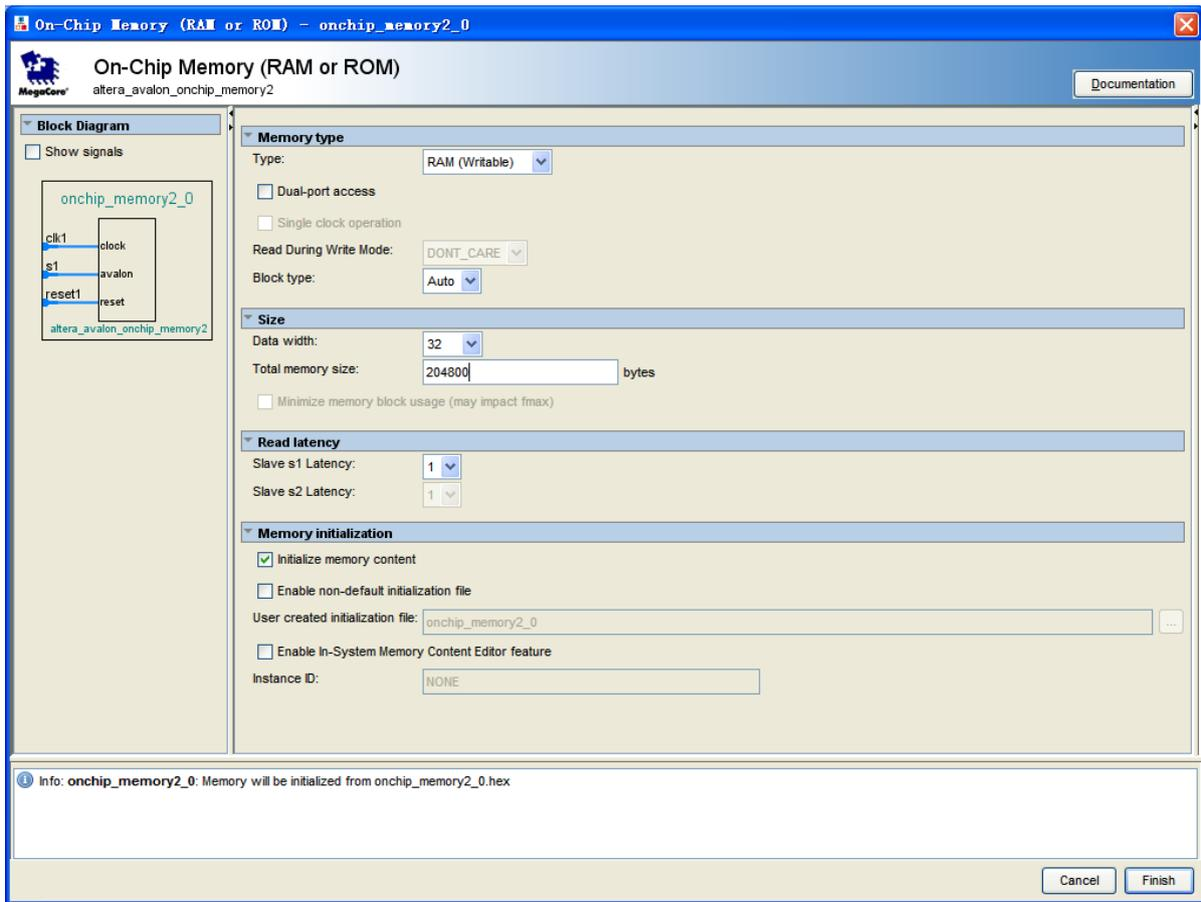
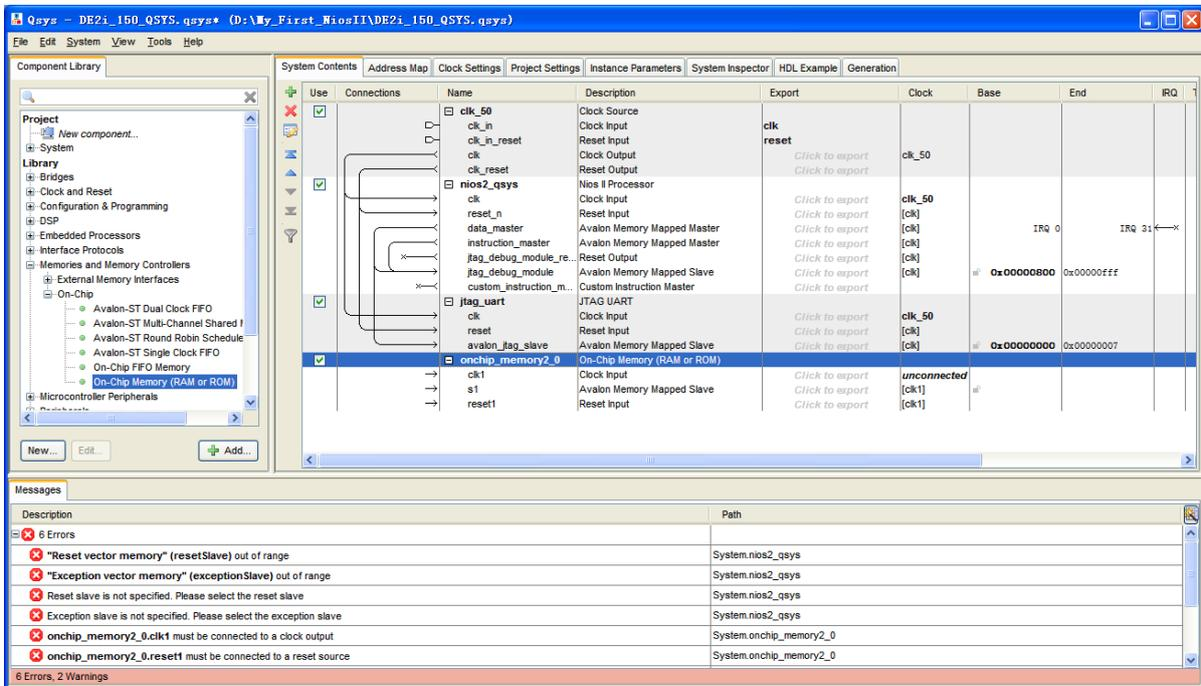

Figure 1-28 Update Total memory size
Figure 1-29 Add On-Chip memory Completely
17. Modify **Total memory size** to **204800** as shown in Figure 1-28. Click **Finish** to return to the window as in Figure 1-29.